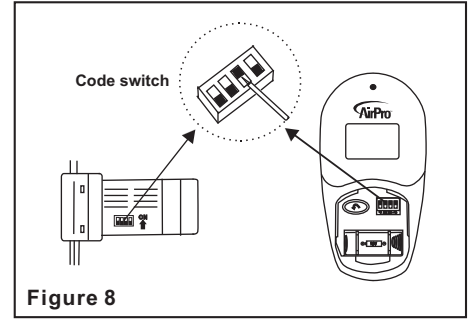

Figure 8
**NOTE:** This remote control unit is equipped with 16 code combinations to prevent possible interference from or to other remote units. The frequency switches on your receiver and transmitter have been preset at the factory. Please recheck to make sure the switches on the transmitter and the receiver are set to the same position, any combination of settings will operate the fan as long as the transmitter and receiver are set to the same position.(Figure 8)